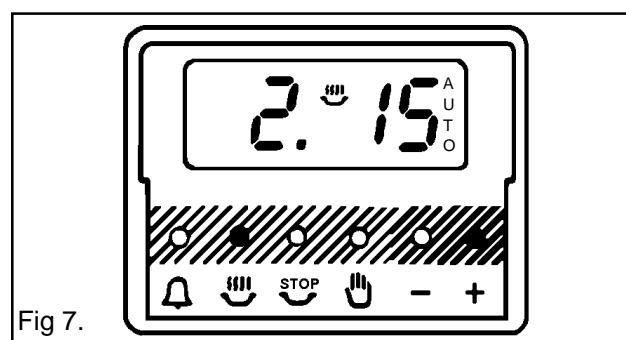

Fig 7.
- iii) To set the length of Cooking Time, press the cooking hours button (🕒), press the increase control (+) until the cooking time is displayed, e.g. 2 hrs 15 mins. Fig 7.